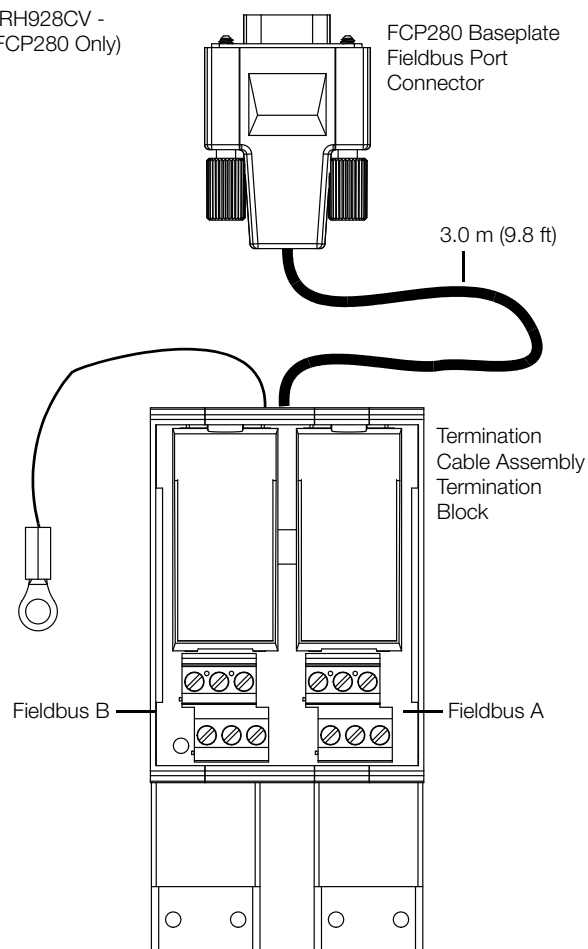

Figure 10. Extended Fieldbus Splitter for FCP280 Baseplate (Fieldbus Ports 1-4)
- ▶ Fieldbus Splitter (RH928CV) (see Figure 10) allows any of the Fieldbus ports on the FCP280 baseplates to connect to the twinaxial 268 Kbps fieldbus cables. RH928CV includes both a connector to any of the Fieldbus ports on the FCP280 baseplate, and a termination cable assembly (TCA) termination block similar to two of the P0903VY termination blocks joined together. Refer to PSS 31H-1B11 B3 for the usage of this splitter.